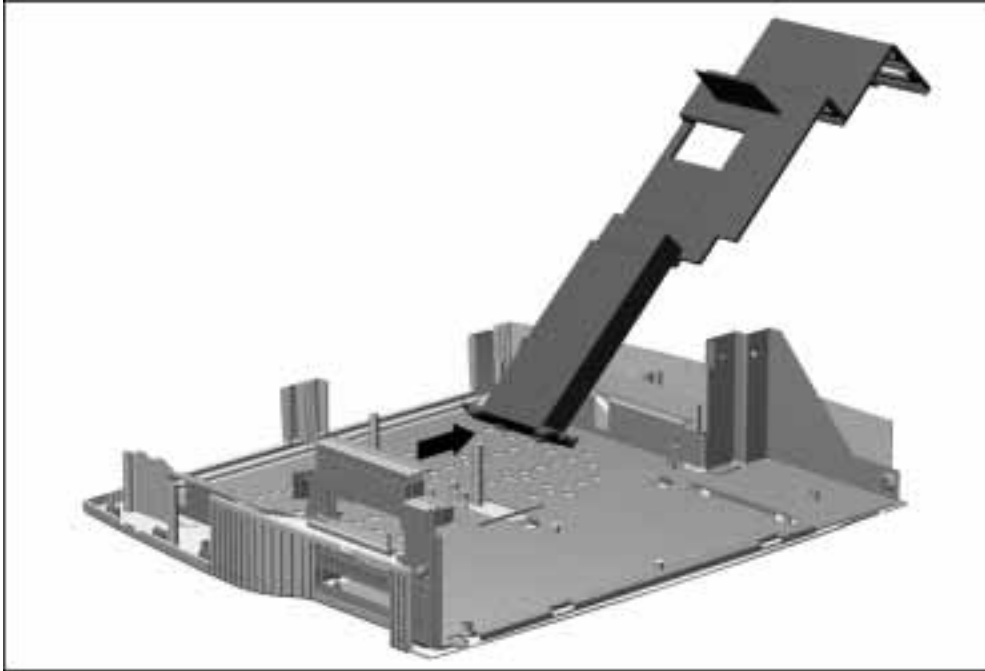

Figure 5-56. *Removing the Expansion Card Cage*
13. Swing the expansion card cage to the right until the tabs on the right side of the cage clear the slots in the base assembly (Figure 5-56).